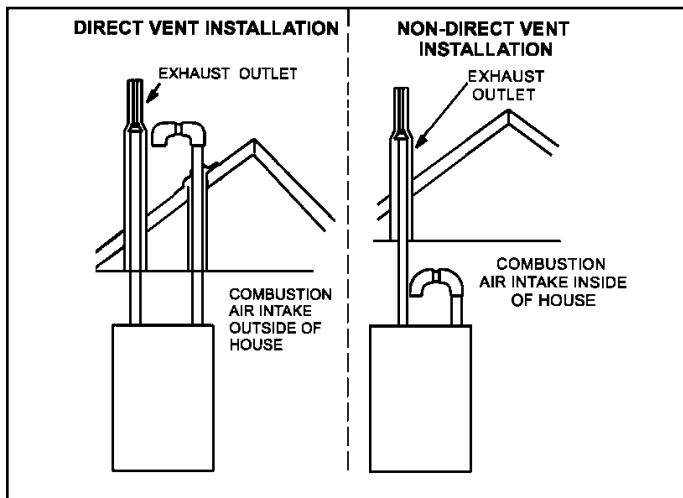
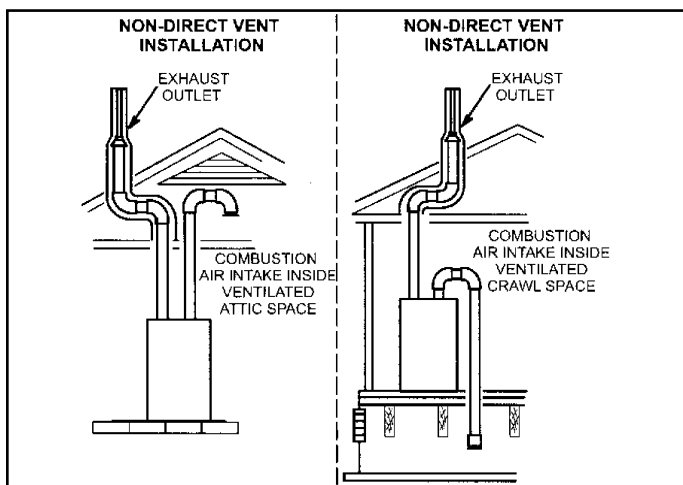

Figure 2.
Figure 3.
**NOTE:** In Direct Vent installations, combustion air is taken from outdoors and flue gases are discharged outdoors. Non-Direct Vent installations, combustion air is taken from indoors or a ventilated attic or crawl space and flue gases are discharged outdoors. See Figure 2 and Figure 3 for applications involving roof termination.